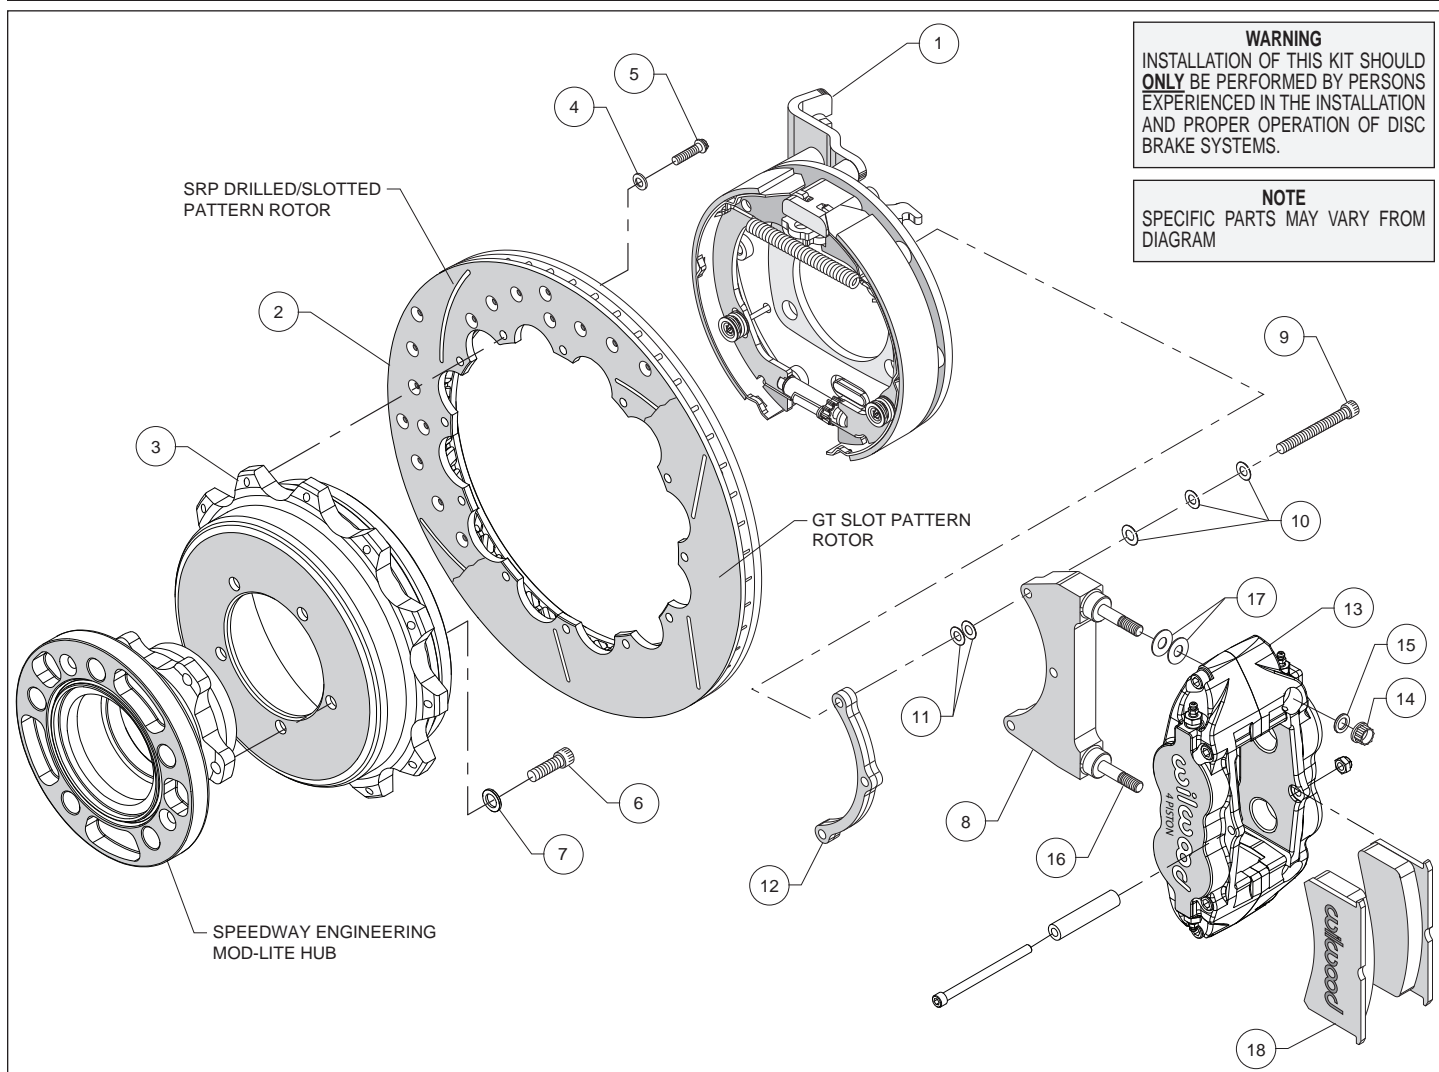
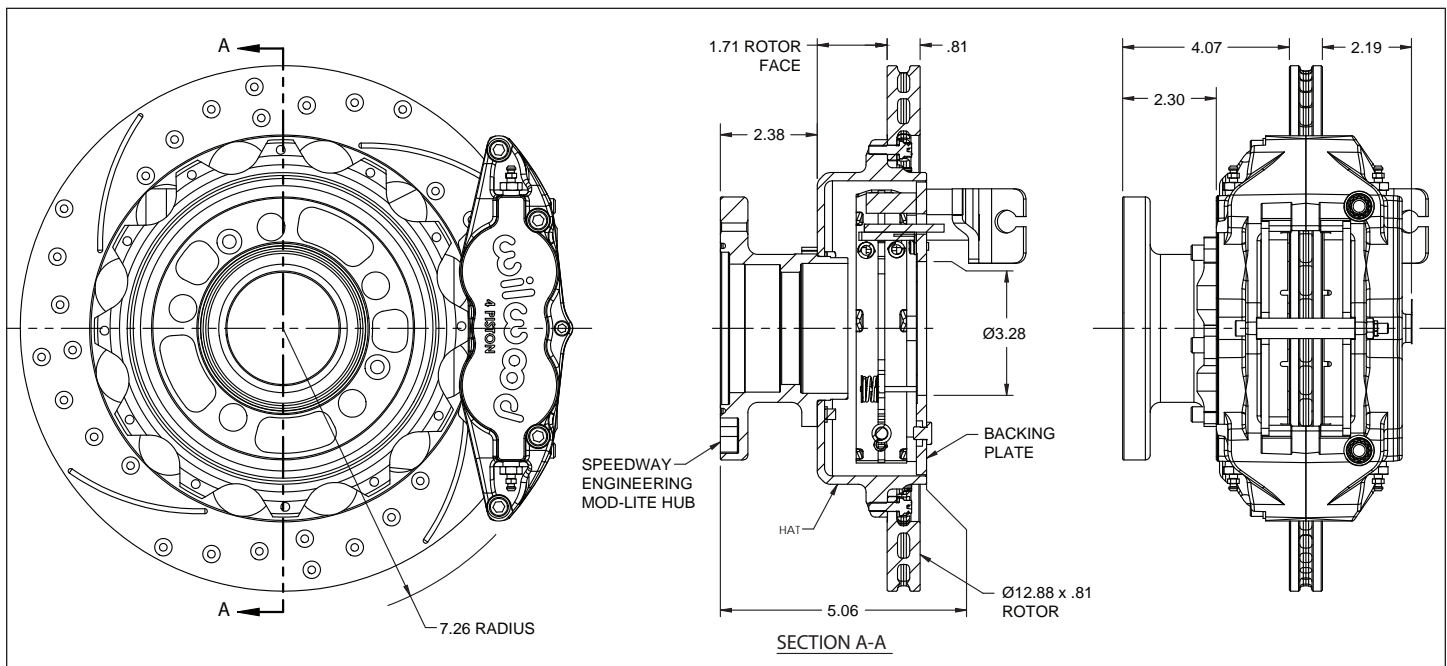
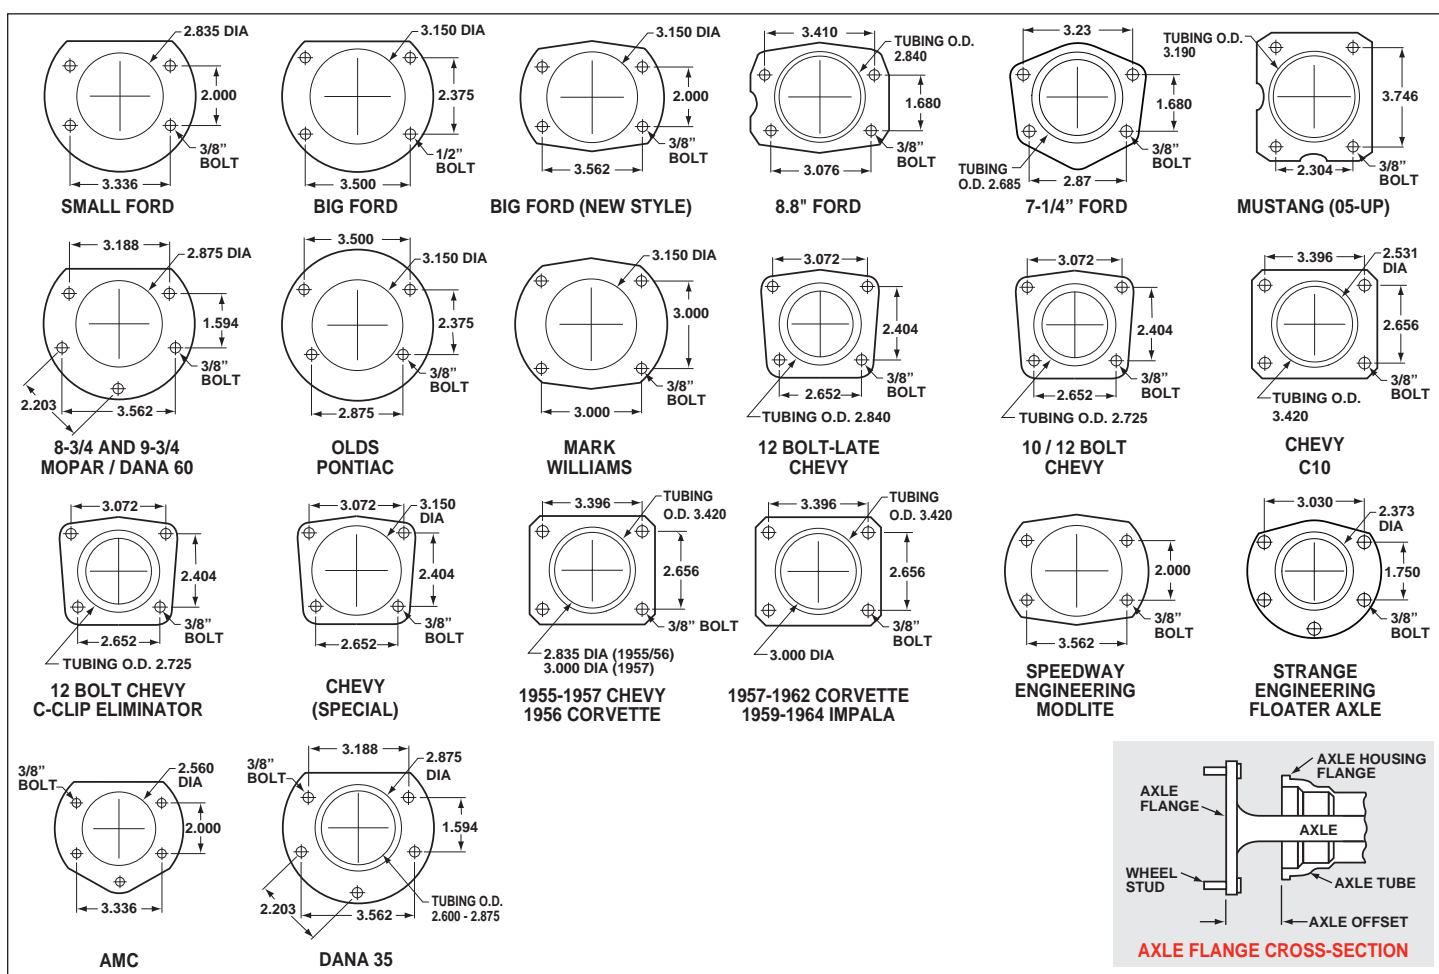

Figure 1. Typical Installation Configuration
Figure 2. Kit Mounting Dimensional Characteristics
Figure 4. Rear Housing Flange Chart and Axle Flange / Offset Cross-Section
• This kit requires a New Style Big Ford mounting flange (see Figure 4) on the axle housing at a distance of 5.06" offset from the face of the installed Speedway Engineering hub, Figure 2.
**Assembly Instructions** (numbers in parenthesis refer to the parts list, and Figure 1 on the preceding pages):
- Orient the bracket assembly (1) as shown in Figure 1 and secure to the axle housing using customer supplied bolts and nuts. Ensure that the bracket assembly backing plate fits flush against the axle housing flange.
- The caliper mounting bracket (8) should initially be installed with clean, dry threads on the mounting bolts (9). Orient the bracket as shown in Figure 1 and install using bolts (9), washers (10), shims (11) and spacer (12). Initially place two .015" shims (11) on each bolt between the bracket and the spacer. Temporarily tighten the mounting bolts. **NOTE:** End of bolt should not exceed inside face of insert. The bracket must tighten squarely against the back side of the bracket kit assembly (1). Later, after the caliper alignment has been checked, the mount bolts will be secured using red *Loctite*® 271.
- Orient the rotor (2) and the hat (3) as shown in Figure 1 and Photo 1. Attach rotor to hat using bolts (5) and washers (4). Using an alternating sequence, apply red *Loctite*® 271 to the threads and torque bolts to 140 **in-lb**. For an added measure of security, the bolts may be safety wired using standard 0.032 inch diameter stainless steel safety wire as shown in Figure 2. Refer to Wilwood's data sheet DS-386 (available at [www.wilwood.com/Pdf/DataSheets/ds386.pdf](http://www.wilwood.com/Pdf/DataSheets/ds386.pdf)) for complete safety wire installation instructions.
- Attach the rotor/hat assembly (2/3) to the hub (Speedway Engineering, customer supplied) using bolts (6) and washers (7) as shown in Figure 1. Apply red *Loctite*® 271 to the bolt threads and torque to hub manufacturer's specifications. Slide the rotor/hat/hub assembly into place on the axle housing.
- Lubricate the caliper mounting studs (16) with lightweight oil. Initially place two .035" thick shims (17) on each stud between the caliper and the bracket, as shown in Figure 1 and Photo 2. Mount the caliper (13) onto the bracket (8) using lock nuts (14) and washers (15), Figure 1. Temporarily tighten the lock nuts and view the rotor through the top opening of the caliper. The rotor should be centered in the caliper, Photo 3. If not, adjust by adding or subtracting shims (11) between the bracket and the spacer. Always use the same amount of shims on each of the two mounting bolts. Once the caliper alignment is correct, remove the bracket mounting bolts one at a time, apply red *Loctite*® 271 to the threads, and torque to 180 **in-lb**.
- Remove the caliper center bridge pad retainer bolt, nut, and tube from the caliper. Insert the brake pads (18) into the caliper, with the friction material facing the rotor, as shown in Photo 4. Check that the top of the brake pad is flush with the outside diameter of the rotor, Photo 5. If not, adjust by adding or subtracting shims (17) between the caliper and the bracket. After the caliper pad height is set, torque the caliper lock nuts (14) to 28 ft-lb. Secure the brake pads in place with the center bridge pad retainer tube, bolt, and locknut. The locknut should be snug without play in the bolt or tube. Be cautious not to over tighten.